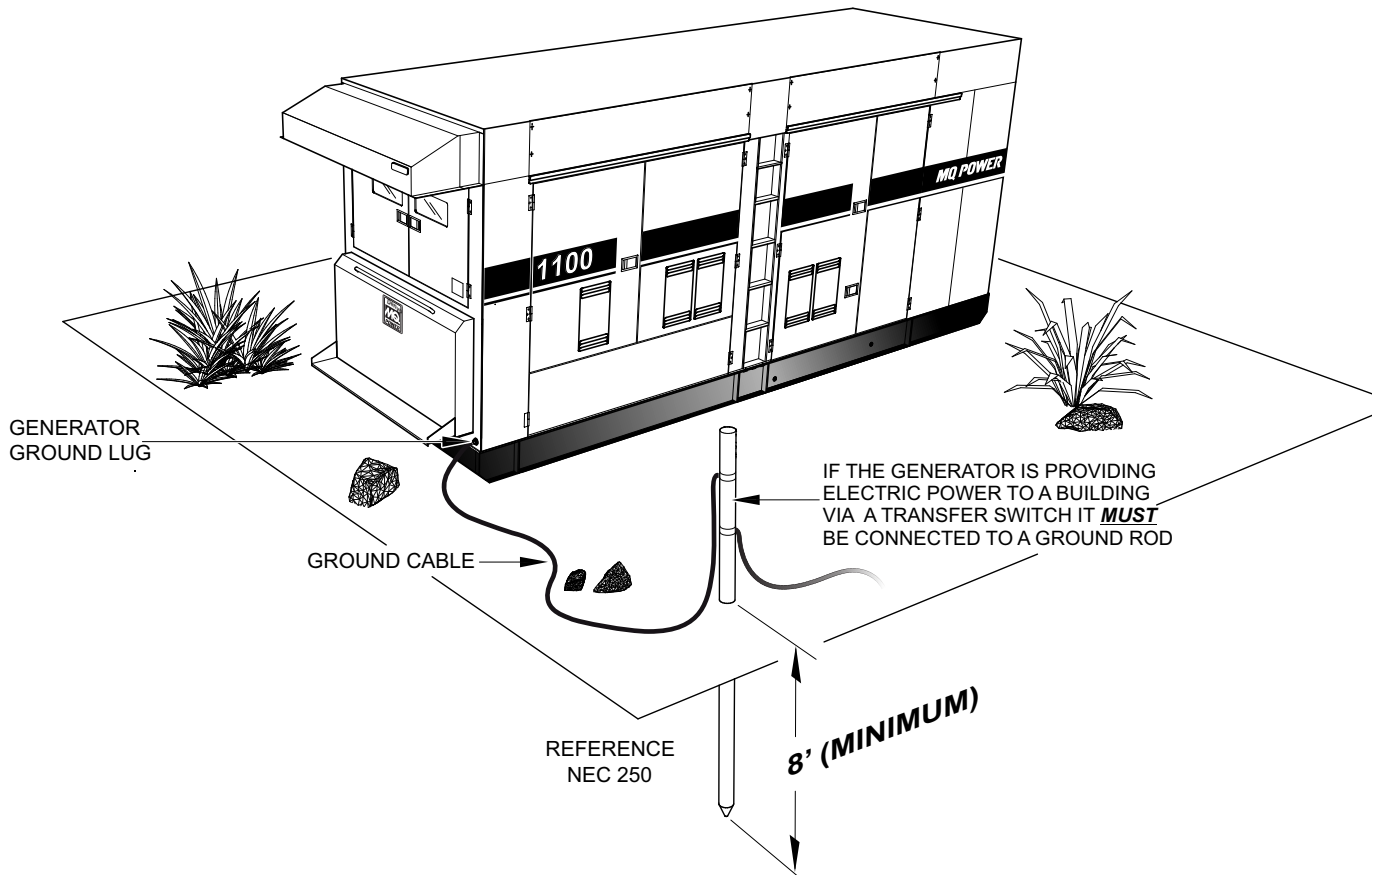

Figure 4. Typical Generator Grounding Application
Connect one end of the ground cable terminal to the generator ground point (Figure 4). Connect the other end of the ground cable to a suitable earth ground (ground rod).
The Occupational Safety and Health Administration (OSHA) and the National Electrical Code (NEC) recommend that if the generator is providing electrical power to a structure (home, office shop, trailer or similar) it **must** be connected to a grounding electrode system, such a driven ground rod (Figure 4).
If applicable, to guard against electrical shock and possible damage to the generator, it is important to provide a good **EARTH** ground, (Figure 4).
2. When grounding of the generator (Figure 4) is required, connect one end the ground cable to the ground lug on the generator. Connect the other end of the ground cable to the ground rod (earth ground).